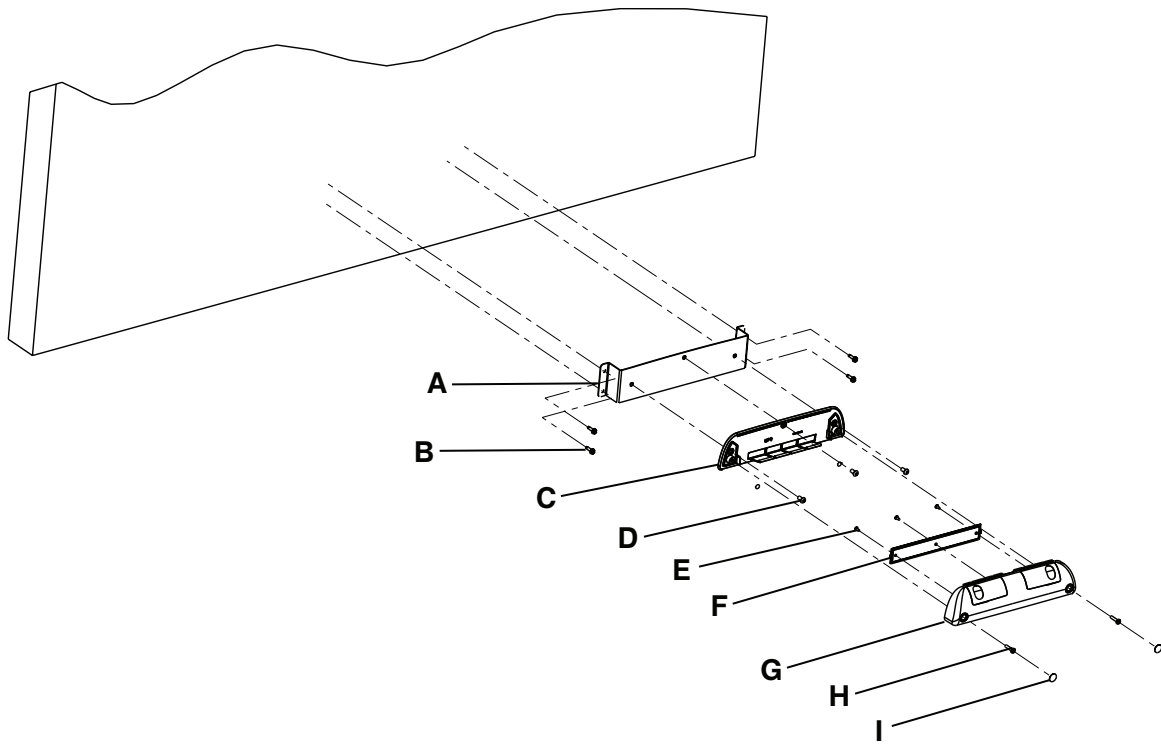

Figure 6 – Mounting with wall module spacer
3. Center the supplied wall module spacer (A) (5212-100-125) on the mark that was made in step 2 and use a pencil to mark the bottom of the wall module spacer (A) (Figure 6).